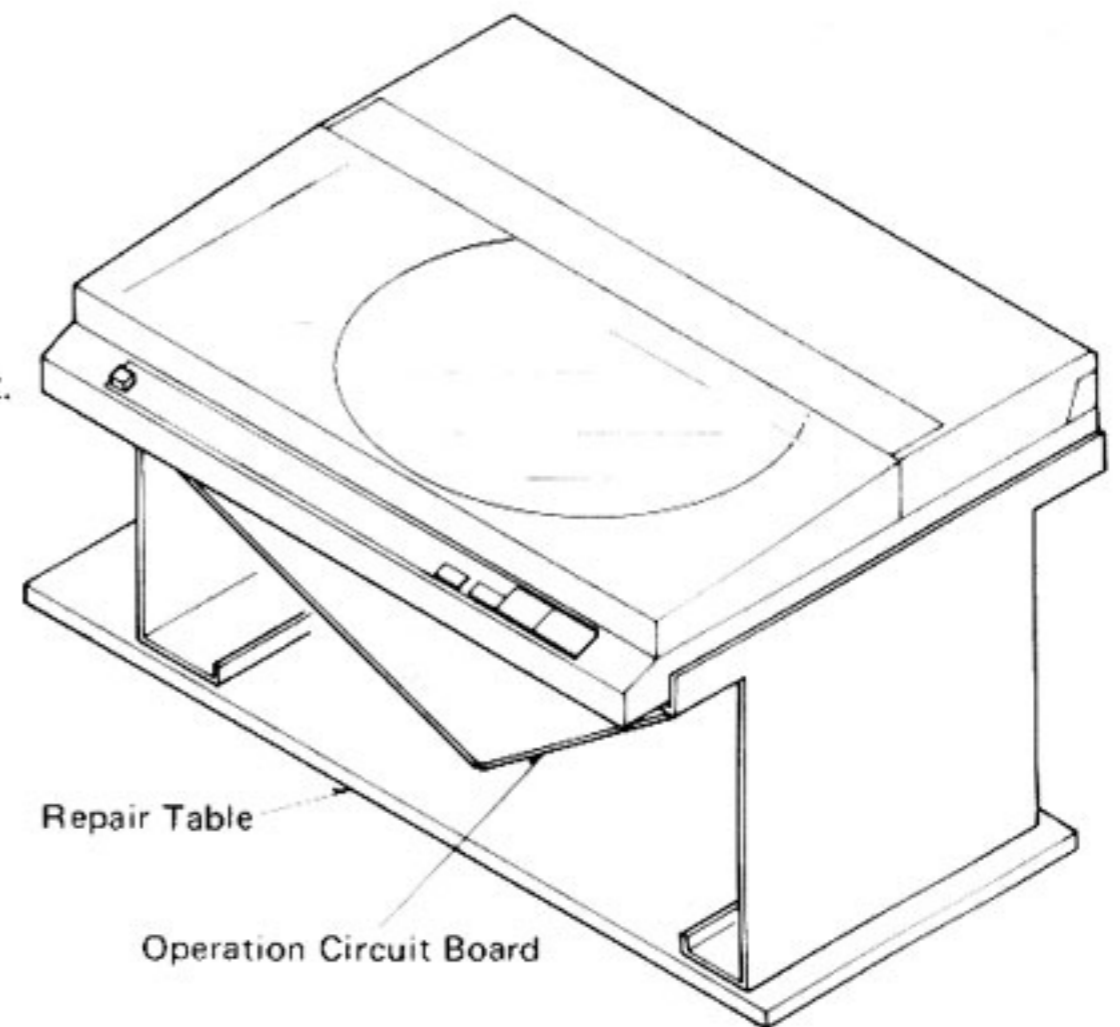

Fig. 26
1. How to use the repair table (Fig. 26)
- ① Remove the bottom board.
- ② Remove the operation circuit board and connect the P.C.B. ground terminal to the chassis (Stator frame.)
- ③ Put the unit on the repair table.
- ④ Fit the turntable platter and put on the turntable mat.
- ⑤ Put on the record and check the circuits from under the unit.